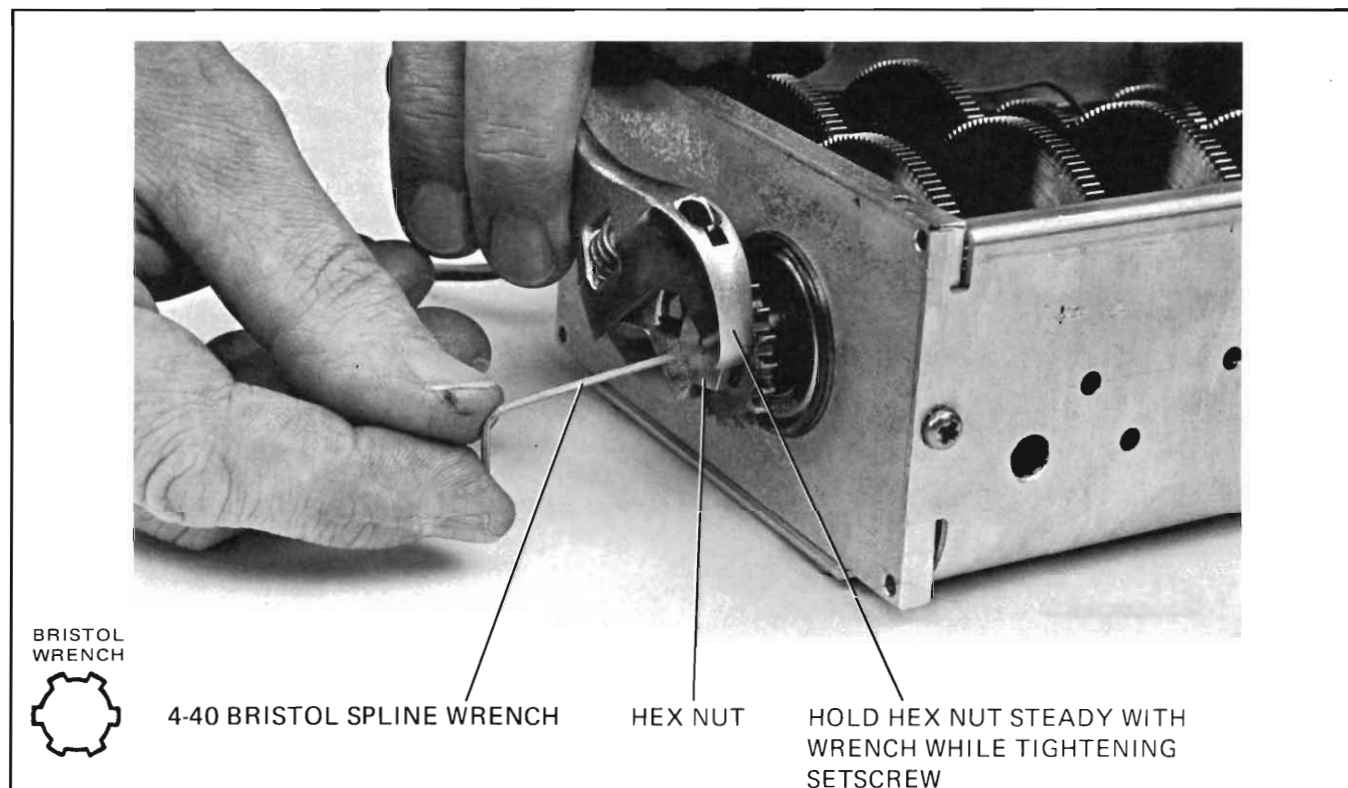

Figure 5-23. Gearbox Shaft End Play Adjustment
b. While holding hex nut so it cannot move, use a 4-40 Bristol spline wrench to tighten locking setscrew in center of hex nut (Figure 5-23). An Allen wrench will not fit.